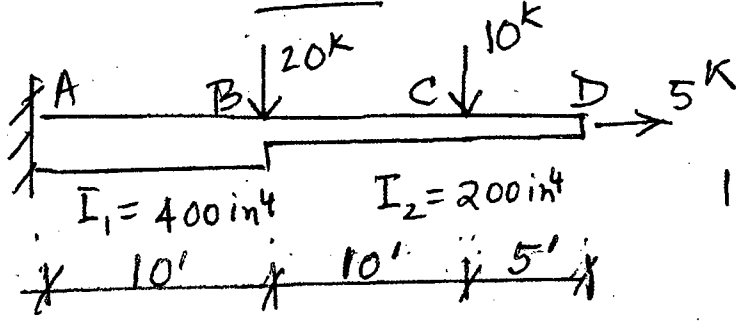

Fig. 6 (Q. no. 6)
6. Calculate change in slope at point "D" due to the loads shown in Fig. 6. Assume $E = 30 \times 10^3$ ksi. $A_1 = 15$ in² (for AB) and $A_2 = 10$ in² (for BD). Moment of inertia given in Fig. 6.